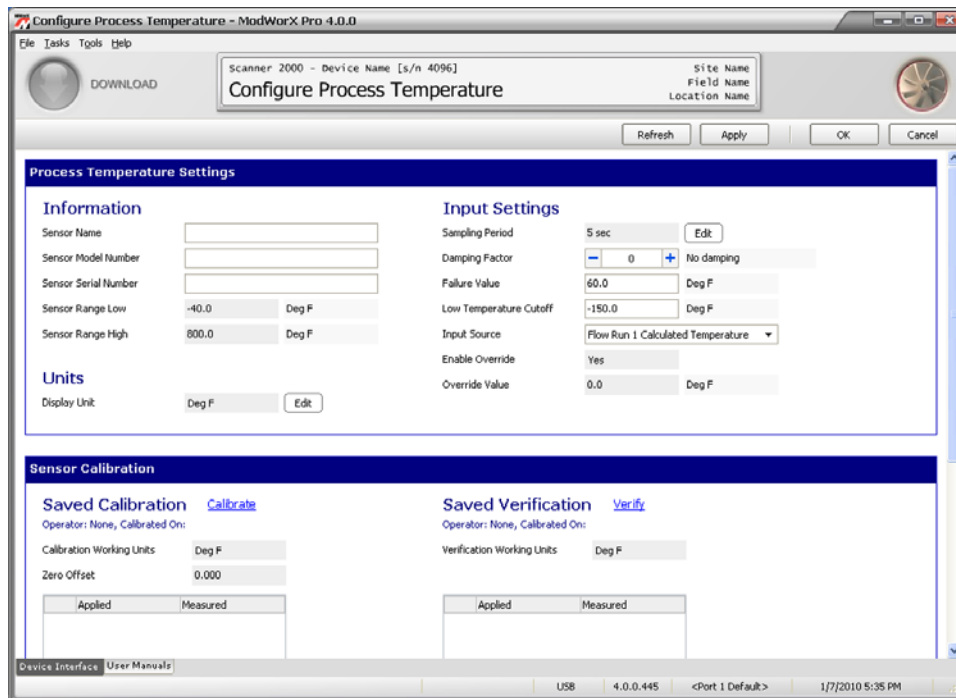

Figure 6.14
- e. The input source allows the user to specify the temperature input logged. When the flow run is configured for gas measurement, the setting defaults to RTD and is not configurable (Figure 6.11, page 83). When the flow run is configured for steam measurement, the setting defaults to Flow Run 1 Calculated Temperature and the override settings below the Input Source field are automatically disabled (Figure 6.14). To log a different temperature input, change the Input Source to RTD.